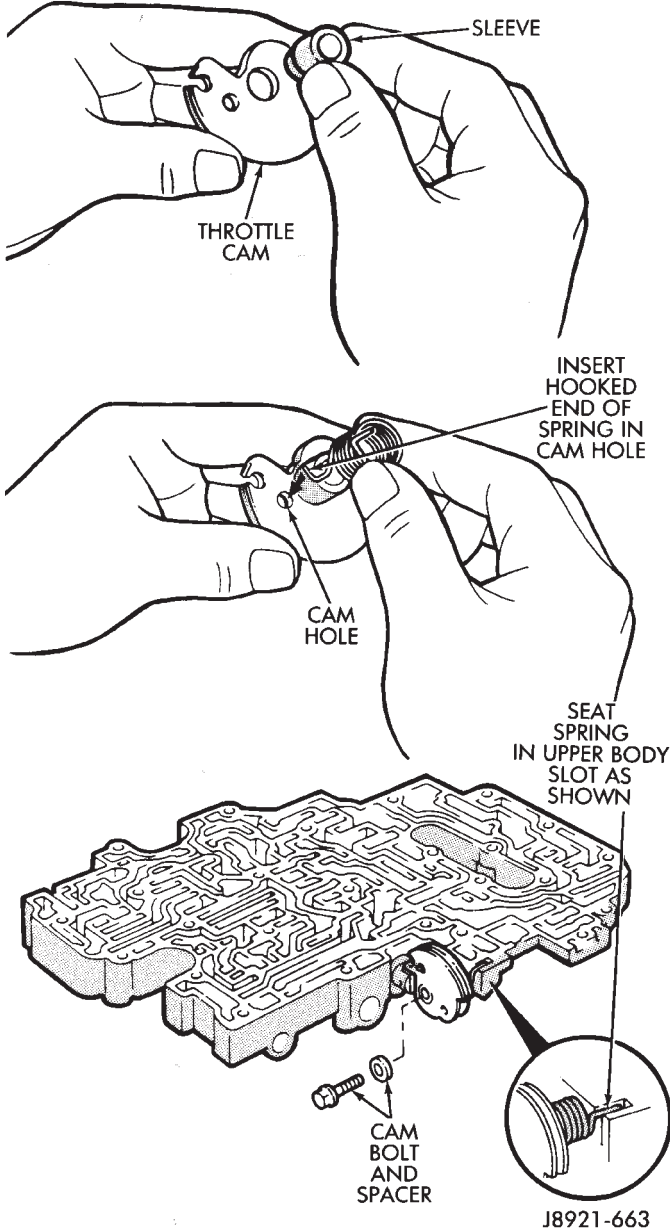

Fig. 20 Installing Throttle Cam
(15) Install sleeve in throttle cam (Fig. 20).
(16) Install spring on cam (Fig. 20). Hook curved end of spring through hole in cam as shown.
(17) Mount cam on upper body and install cam attaching bolt and spacer (Fig. 20). Tighten bolt to 10 N•m (7 ft. lbs.) torque.
(18) Be sure straight end of spring is seated in upper body slot as shown (Fig. 20).